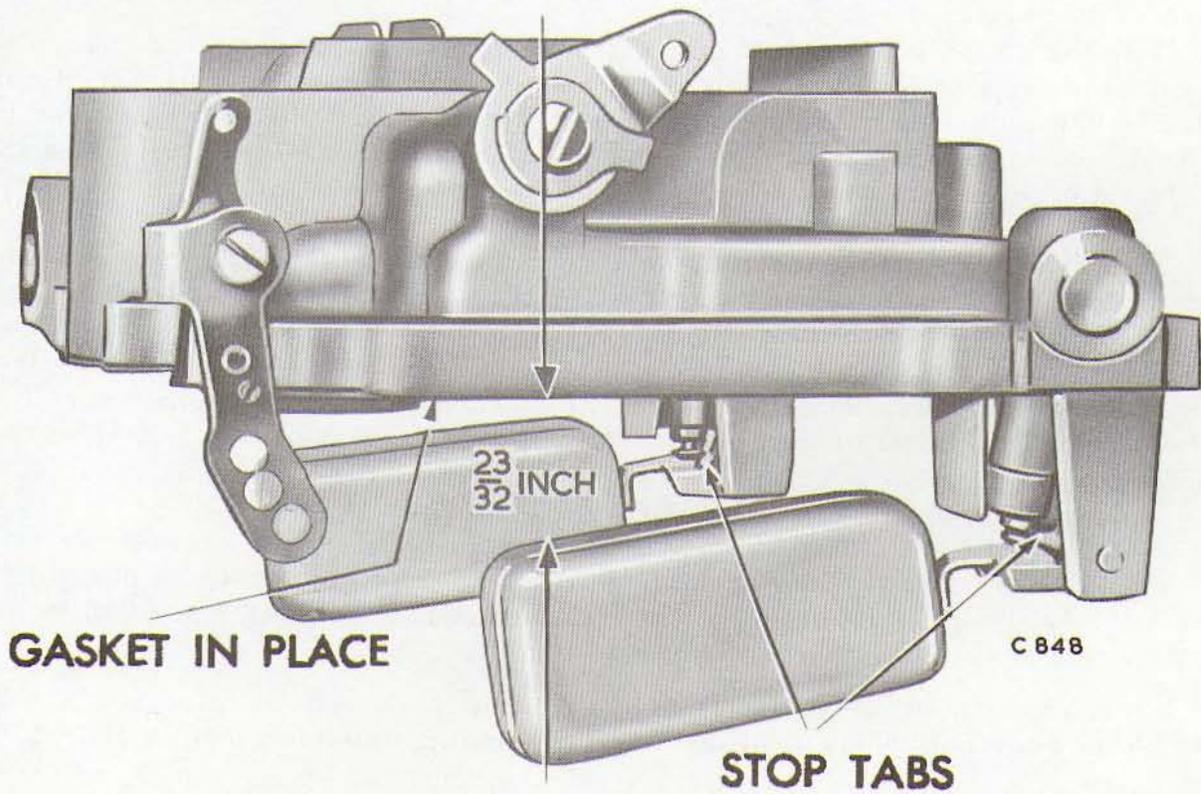

Fig. 18 Checking Float Drop
- (1) Holding the air horn in an upright position, measure the distance from the top of the floats (outer end) to the air horn gasket, as shown in Fig.18. This measurement should be $23/32$ inch. If an adjustment is necessary, bend the stop tabs on the float levers until the correct drop setting has been obtained. Bend the tap towards the needle seat to lessen the drop, or away from the seat to increase the drop.
- (2) After the floats have been checked and adjusted, continue to assemble the carburettor as follows:
- (3) Place the accelerator pump plunger lever spring in the pump cylinder, then lower, the air horn carefully down on the main body.